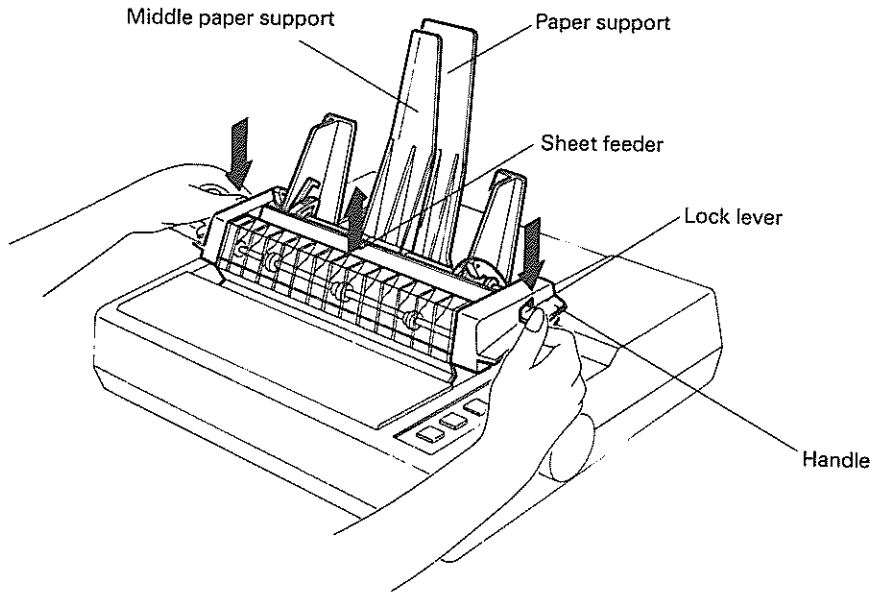

Fig. 3-4. Cut Sheet Feeder Removal
- Step 1: Remove the paper supports. (See Fig. 3-4.)